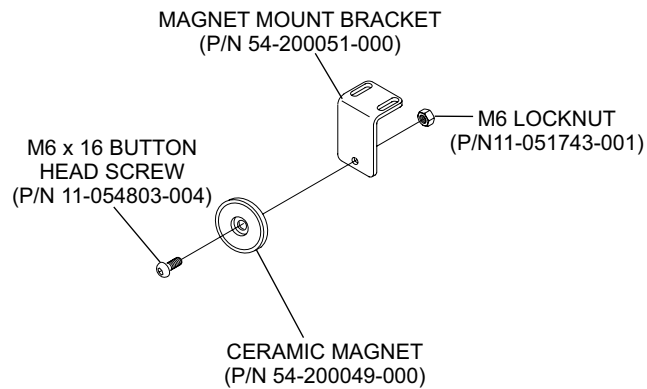

Figure 8
1. Assemble door magnet by securing the ceramic magnet (P/N 54-200049-000) to the magnet mounting bracket (P/N 54-200051-000) with M6 x 16 button head screw (P/N 11-054803-004) and M6 locknut (P/N 11-051743-001). Refer to *Figure 8*.